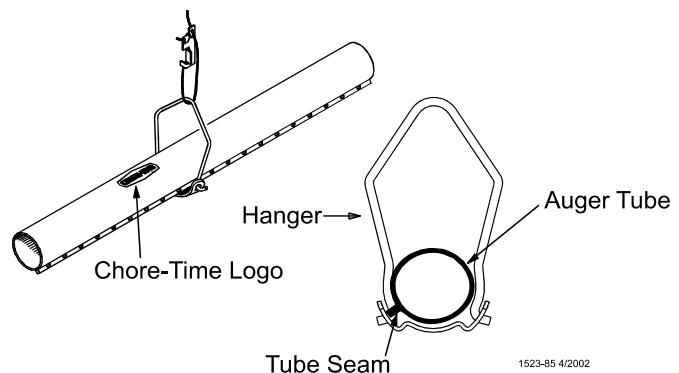

Figure 27. Assembling Feeders on the Tubes
3. To achieve total feed drop out all along the system, the Chore-Time Logo should be centered at the crown of the tubes and all the Hangers should be installed as shown in **Figure 27**.
4. Install the Hangers on the feed line tube at the 8' [2.4 m] spacings determined by the suspension drop lines. **Figures 27 and 30** show the proper installation of the Hanger Assembly. Make sure the outlet drop hole is downward when the Hangers are installed, otherwise feed will not be allowed to drop into the feeder pan.